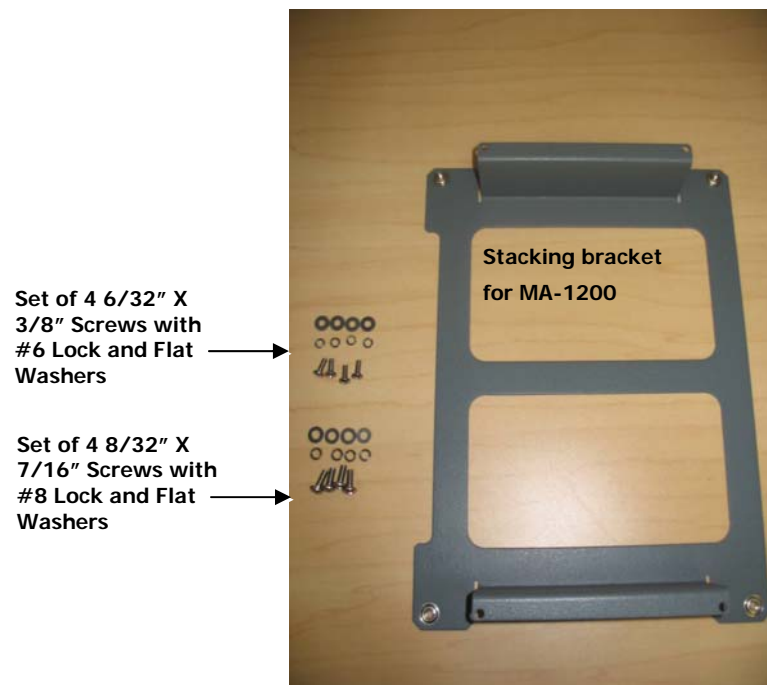

Figure 3-10: BRKT-1200-STK Contents
2. Use the **BRKT-1200-STK** mounting accessory as described in **Section 3.4.2 - Mounting and Accessory Kits** to mount the 860M/R on top of the MA-1200. The kit contents are shown in **Figure 3-10: BRKT-1200-STK Contents**.